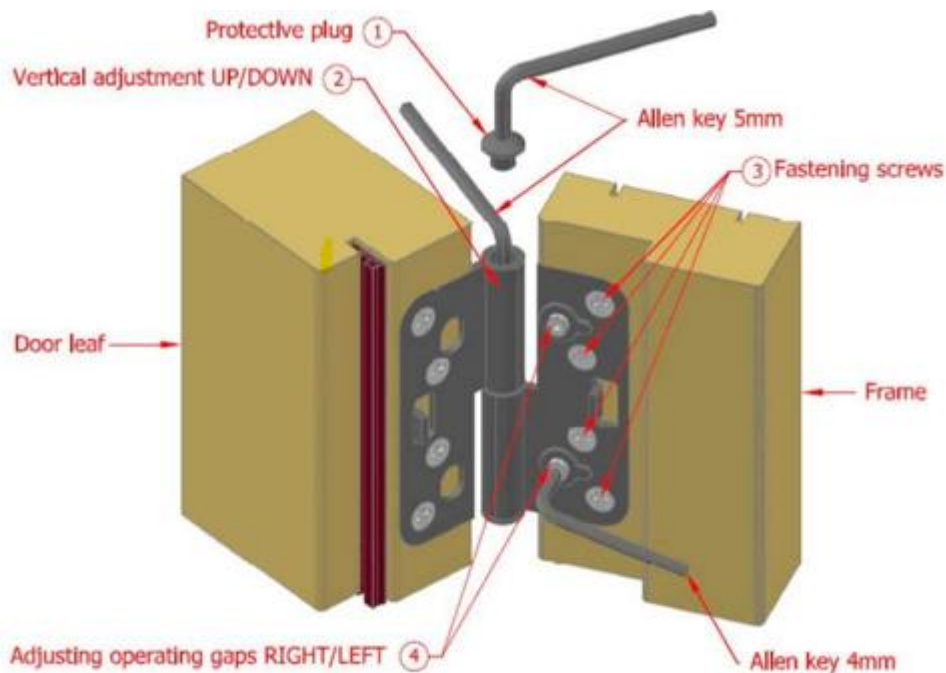

Figure 3. Adjusting the hinges
**Door leaf adjustment up/down, see Figure 3.**
**Adjusting the door leaf's side gaps inside the frame, see Figure 3**